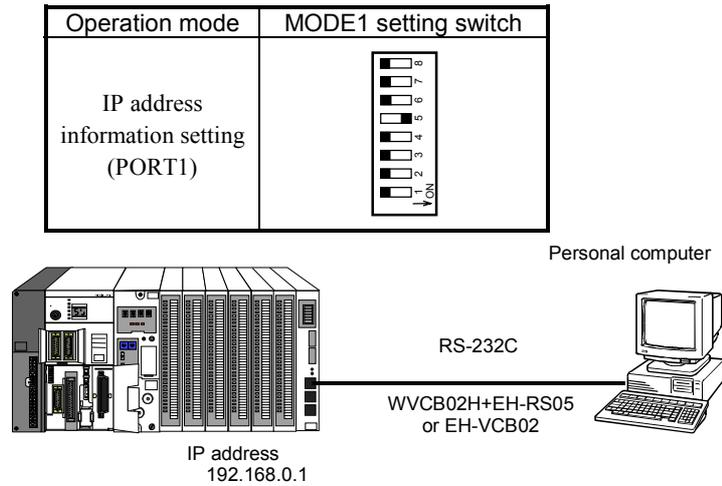

Figure 5.1.2.6 IP address set composition
Figure 5.1.2.6 shows the composition when the personal computer sets IP address by way of RS232C of port 1. The example of operating the outline when IP address is changed from "192.168.0.1" to "192.168.0.9" is shown.
- ① IP address set tool is started (*1)
- ② The value of the module is automatically read now and the value is set in current value column and setting value column. (State of Figure 5.1.2.7)
- ③ The cursor is matched to the setting value column, and each parameter is changed.
- ④ When "Transmission" button is pushed, the changed parameter is written in the module.
- ⑤ When "Reception" button is pushed, the current value is read from the module.